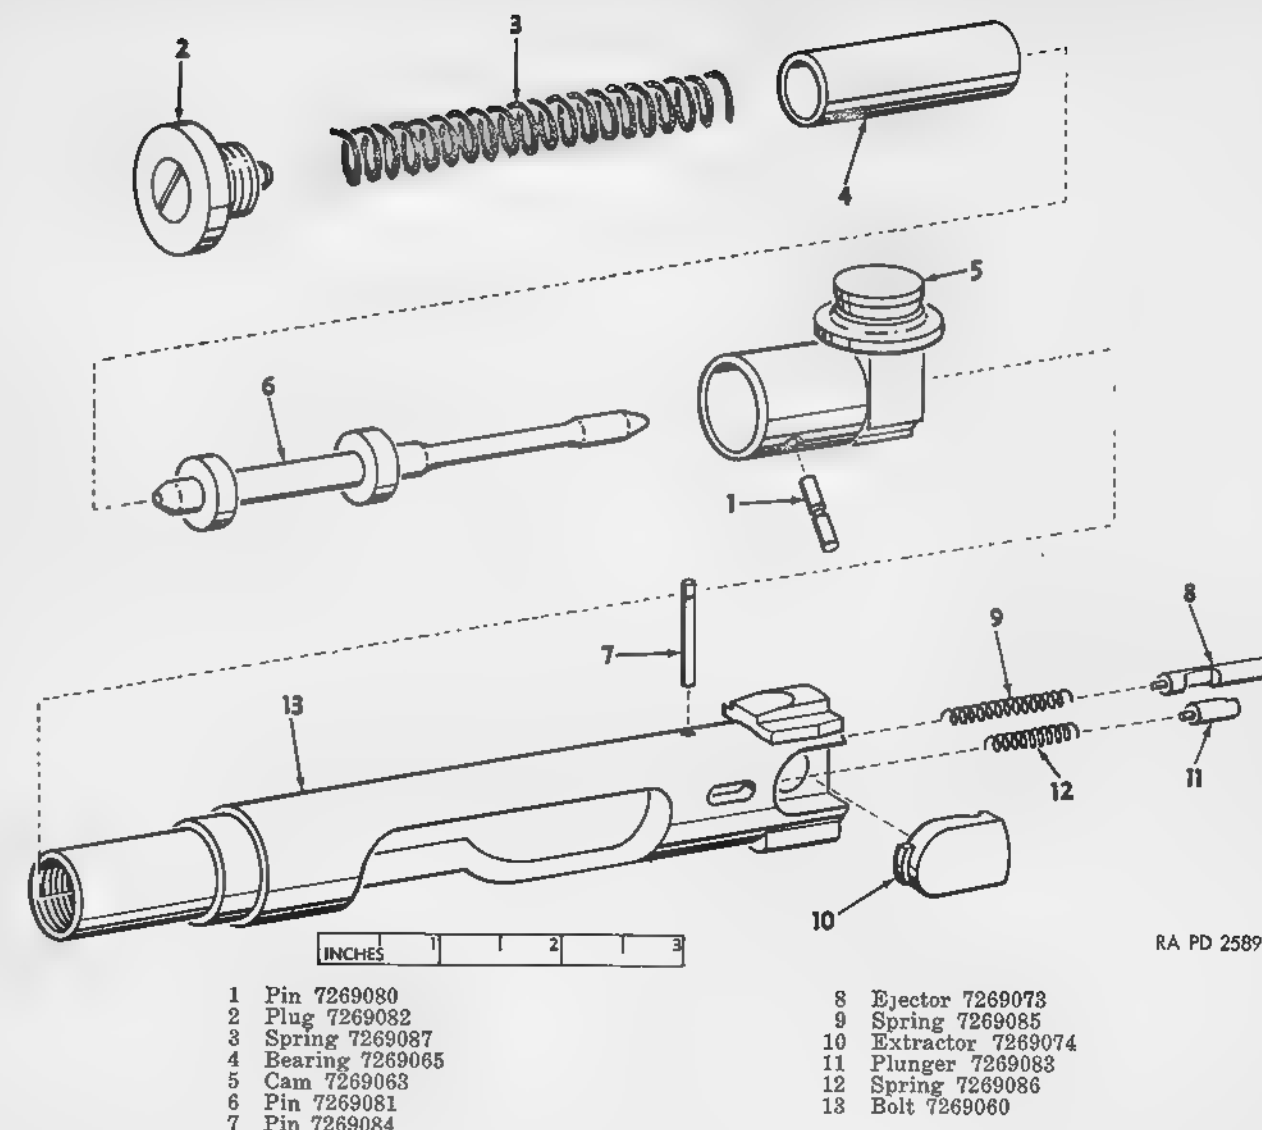

Figure 17. Bolt group—exploded view.
(fig. 17)
b. *Inspection and Repair.* (fig. 17)
- (1) Inspect face of stripping lug for deformation. Face of stripping lug cannot be rounded and must make full contact with cartridge base.
- (2) Locking lugs must not be burred or otherwise deformed.
- (3) Inspect all bolt camming surfaces for burrs or other deformations.
- (4) Inspect firing pin aperture in face of bolt. Diameter may not exceed 0.108 inches.
- (5) Inspect extractor slot for wear or damage that could prohibit free functioning of extractor.
- (6) Insert firing pin in bolt in fully forward position. Dimension of protrusion through face of bolt should be within a minimum of 0.035 inches and maximum of 0.048 inches.
- (7) All springs will be inspected for deformation and will be installed for functional testing. Any malfunction attributable to spring operation will be cause for spring replacement.
- (8) Actuator rollers on actuating cam assembly must function freely and